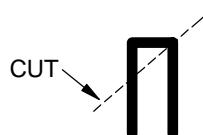

Figure H-15A
- 1. Cut an 10.5" (280mm) length of Fuel Tubing (176) from the piece supplied.
- 2. Cut one end of the 10.5" piece of Fuel Tubing at a 45° angle as shown in Figure H-15A. Install the uncut side of the tubing to the forward fitting on the top of the Fuel Tank (30).
- 3. Wind the Fuel Tubing into a small loop and insert it into the rectangular slot in the chassis brace (29) as shown and clip the Fuel Line into the Fuel Line Clip (84) on the Chassis. Insert the cut end of the tubing into the inside (small) hole in the tuned pipe. This fuel line will serve as the fuel tank pressure line.